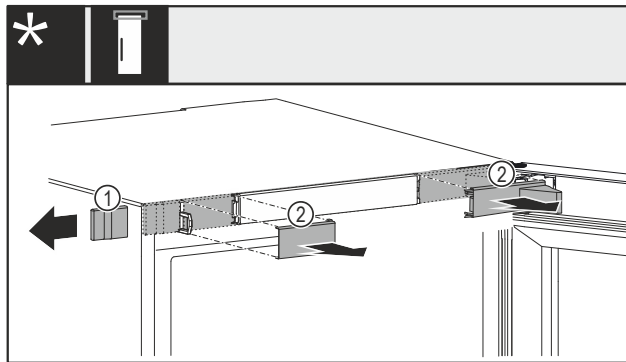

Fig. 12 With mechanical or electrical lock*
- Carefully remove the cover Fig. 12 (1) from the side.*
- Carefully remove the covers Fig. 12 (2) toward the front.*